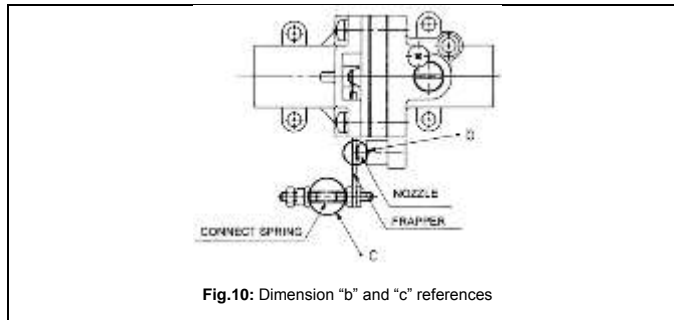

Fig.10: Dimension "b" and "c" references
- (2) The nozzle and the flapper are slightly in contact with each other (highlighted area b). [See Fig.10.]
- (3) Connect spring is straight (as much as possible) (highlighted area c). [See Fig.10.]
- Set cam (6) at the specified position and settle it with the hexagon nut with flange (5).
- Set the open degree indicator (4) and secure it with the truss screw (3).
- (4) Apply supply pressure.
- (5) Check if the nozzle opens and closes and the output is switched by moving the balance lever (11) to the applicable open/close direction.